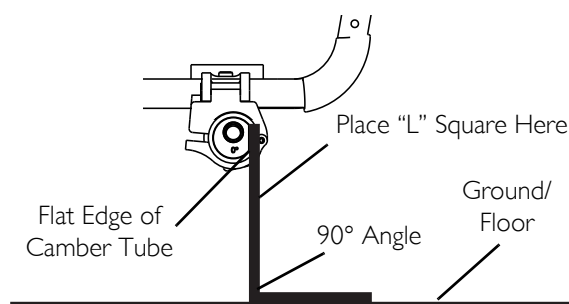

FIGURE 5.20 Adjusting the Axle Tube - Camber Tube With Single Camber
NOTE: For this procedure, refer to FIGURE 5.20.
2. Using an "L" square, rotate the axle tube until the flat edge of the camber tube is at a 90° angle with the ground/floor as shown in FIGURE 5.20.